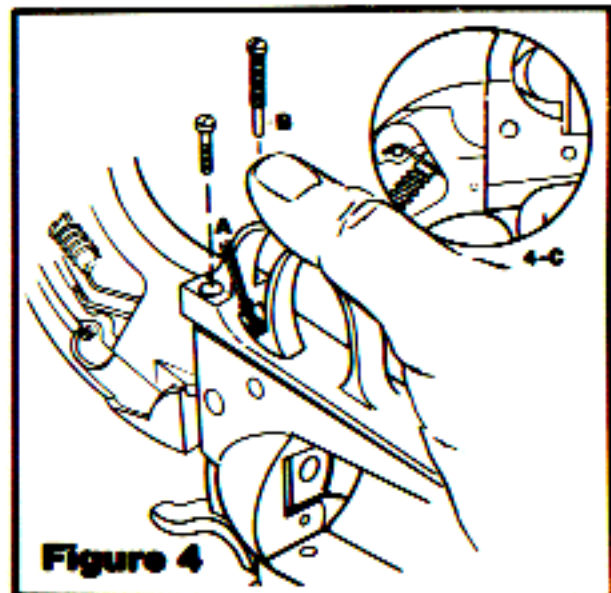

Figure 4
6. (Refer to Figure 4.) Unhook the ends of the trigger spring (XRN-37) from the grooved retaining pin on both sides of the grip frame.
9. (Refer to Figure 4.) Draw hammer to the rear slightly and place the grip frame loosely on the cylinder frame. Before pushing the grip frame forward to mate with the cylinder frame, be certain that:
10. See Figure 4, and note the end of the trigger spring (the arrow marked "A"). This end of the spring must be depressed so that it slides under the rear portion of the trigger when the grip frame is forward. With all the above springs and plungers aligned, fully mate the grip frame and cylinder frame and install the five grip frame screws. Note that the long screw (XRN-19L) should go in the grip frame hole on the gate side (Figure 4-B) of the revolver.
11. Hook the two ends of the trigger spring over the pin (KXRN-63) as shown in Figure 4-C.